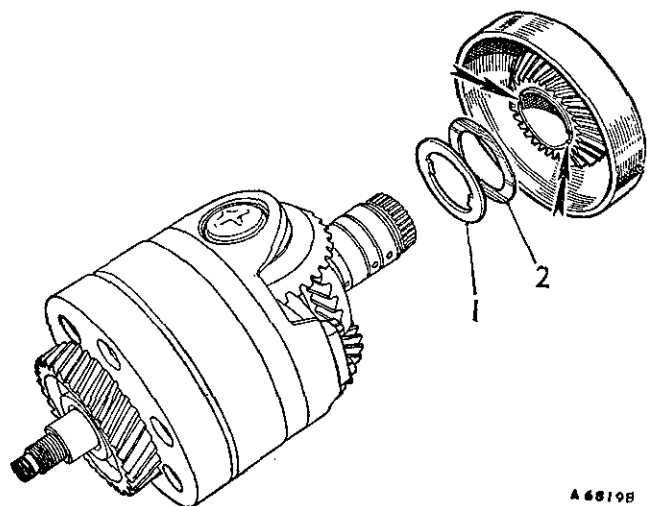

Fig. Fa.38
- (4) Remove the third gear reaction member together with its thrust washer and shim (if fitted) (Fig. Fa.38).